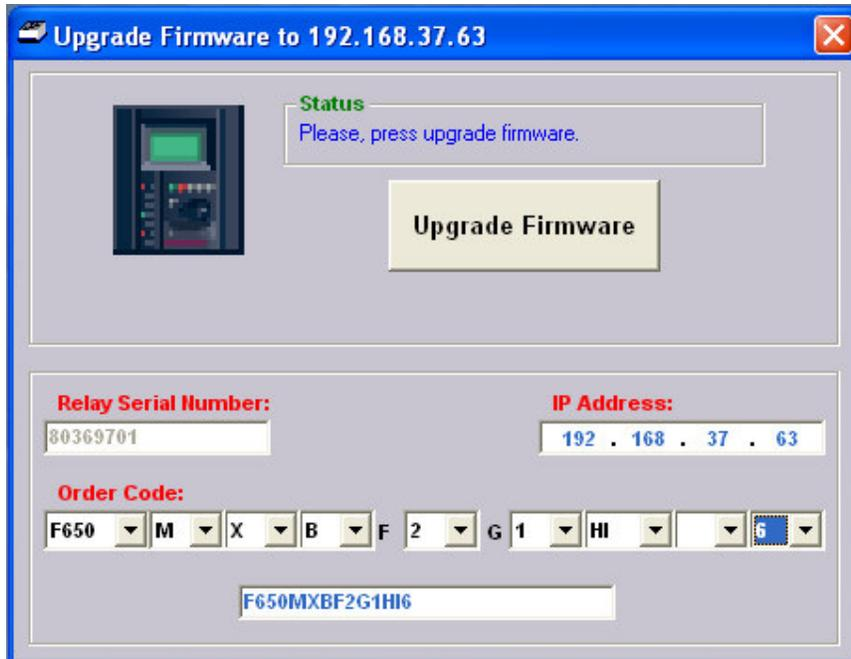

FIGURE 9-23: FIRMWARE UPGRADE ACCEPTANCE WINDOW
9.3.2.2 If the relay under is not a enhanced model or control functionality then click the **Upgrade Firmware** button to continue the process (Figure 9-23). Then the process will continue as per step 9.3.2.4 forward.
9.3.2.3 If when click on **Upgrade Firmware** button (Figure 9-23) an advise message is given (Figure 9-24), local network reboot is necessary. Then please proceed as follows:
- Go to **STARTUP>CONTROL PANEL>NETWORK CONNECTION>LOCAL NETWORK>Right mouse key>Disable**. Now the Local Network status will be shown as **Disabled**. In the same screen with **Right mouse key** over **LOCAL NETWORK** click **Enable** and wait until **Enabled** status is shown. Then press **Upgrade Firmware** button to continue the process (Figure 9-23).